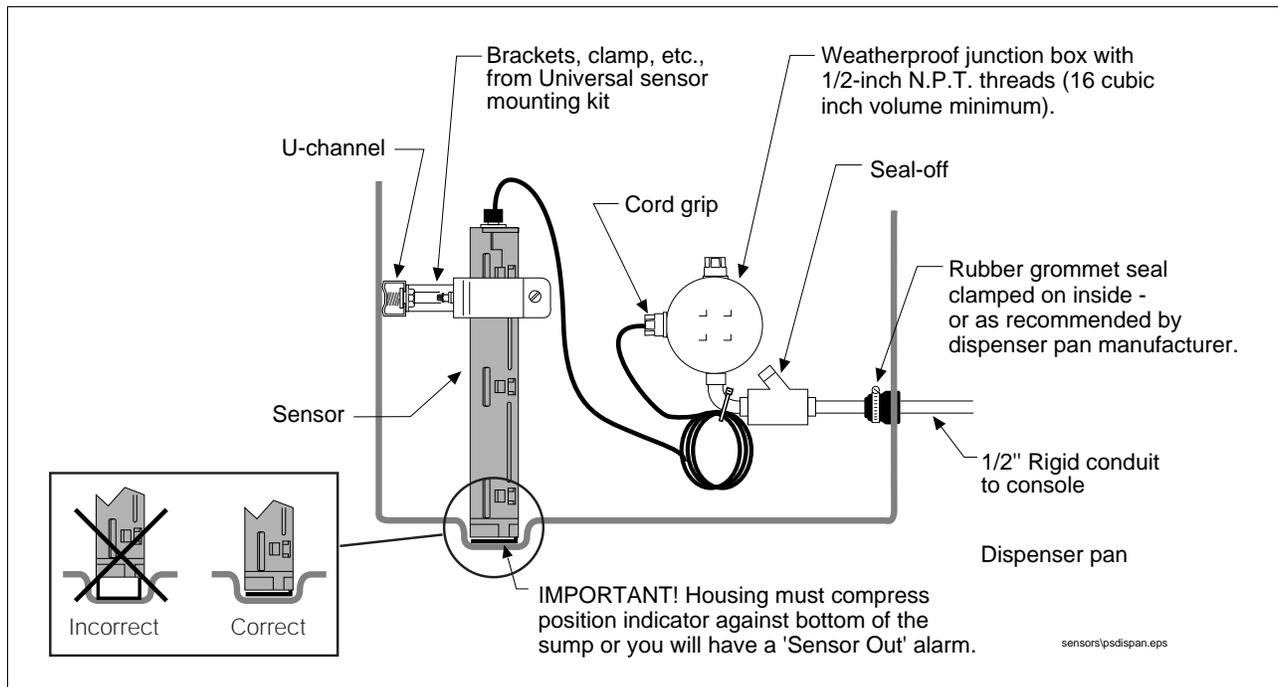
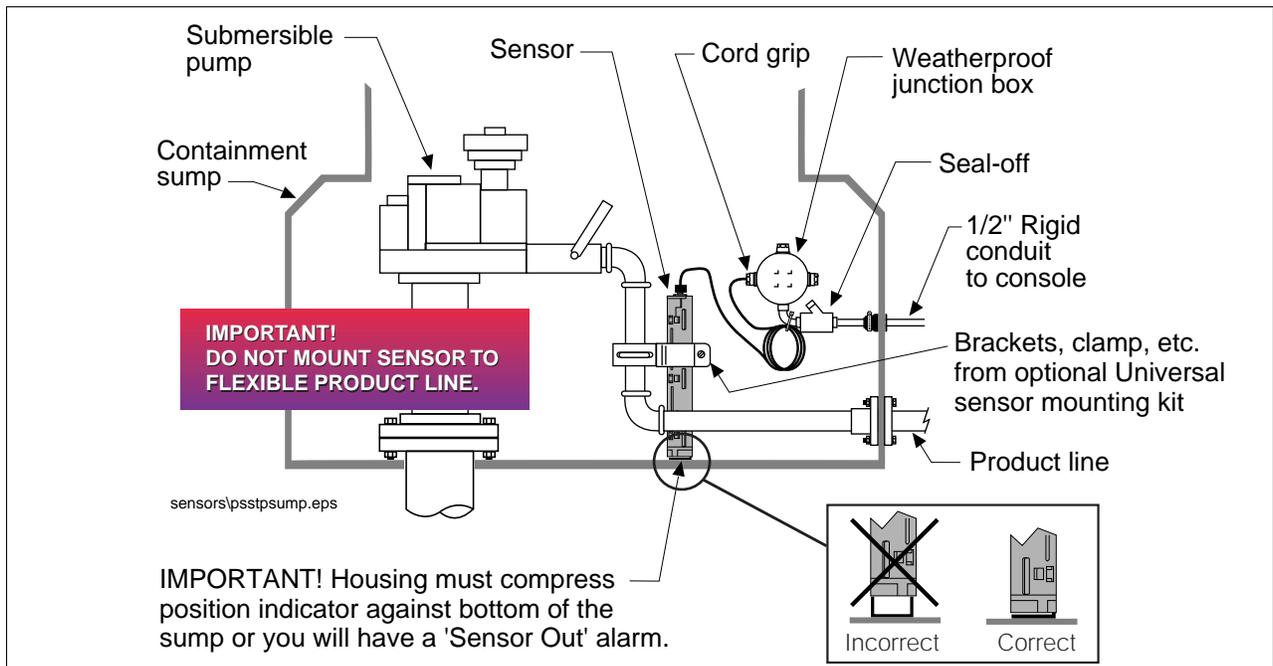

Figure 1. Example Dispenser Pan Installation
Figure 3. Example STP Containment Sump Installation
3. Figure 1 through Figure 3 show sensor installation examples using rigid conduit to the console. However, direct burial cable may have been used from the junction box to the console. Also, the examples make use of the optional Universal Sensor Mounting kit. Other mounting methods, such as a tube in which the sensor is inserted, are acceptable if the installation requirements noted above are met.